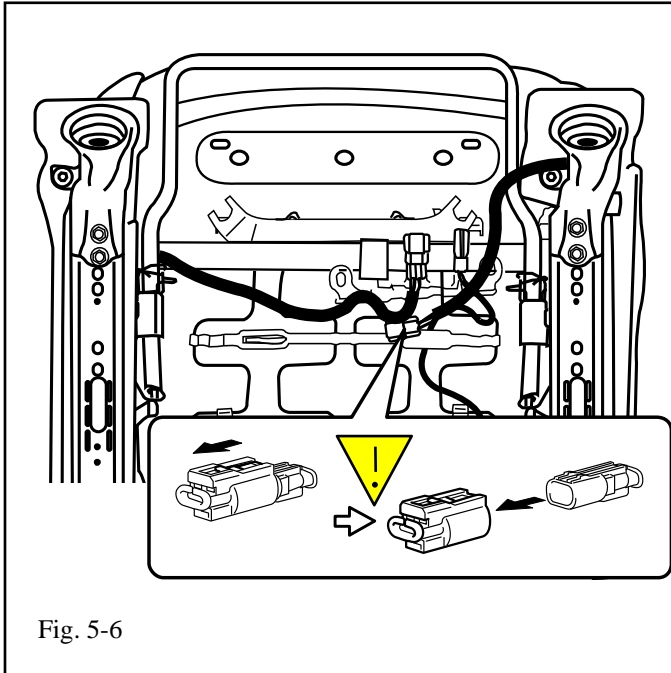

Fig. 5-6
(6) Tilt the seat backward exposing the bottom side. (Fig. 5-6 , 5-7)
- (1) For Passenger Side: (Fig. 5-6)